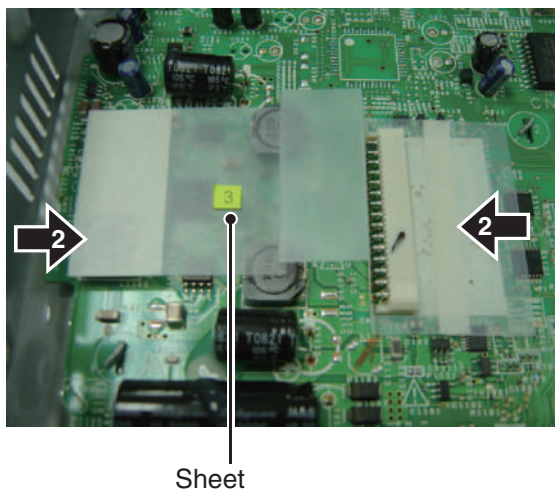

Fig.4
➔ 2 The two seals is removed, and then removed the Sheet. (Fig.4)
2. Remove the solder on the lead for the CRG motor. (Fig. 4)
3. Remove the one relay PCB clinch screw. (Fig. 4)
4. Slide the relay PCB to the direction of the arrow and then remove the relay PCB from the hook A and the hook B. (Fig. 4)
- (Precaution) When installing the PU again, make sure to tuck the chassis in B and the PU unit (Fig. 4) first. Moreover, do not forget to permanently hook the feed screw biasing spring (Fig. 2a). Adjustments to the PU after its installation should be made according to the service manual.